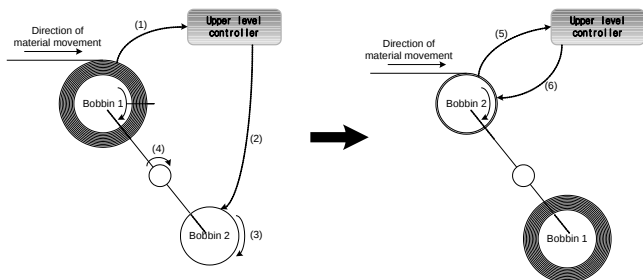

Fig. 1.7.2 Conceptual diagram of splicing
Fig. 1.7.2 illustrates the usual structure of winder splicing systems. The operation sequence of the structure shown in Fig. 1.7.2 is as follows.
When Bobbin 1 is almost completely full, it sends a signal to inform the upper level controller (Fig. 1.7.2 (1)).
The upper level controller then issues an ON signal to the inverter multi-function input specified in “57: Web Splice” that controls empty Bobbin 2 (Fig. 1.7.2 (2)).
The inverter interrupts the output of the Web PID controller. In this situation, the inverter uses a combination of the main speed command (%) and APP93 (Splice Level) as the command value, as shown in Eq. 1.7.6-Eq. 1.7.8, to activate empty Bobbin 2 (Fig. 1.7.2 (3)).
The axis between the bobbins rotates 180 degrees, so Bobbins 1 and 2 switch position (Fig. 1.7.2 (4)).
Bobbin 2 sends a signal to the upper level controller to confirm that the switch is complete (Fig. 1.7.2 (5)).
The upper level controller sends an OFF signal to the inverter's corresponding multi-function input specified in "57: Web Splice" to control Bobbin 2, which interrupts the splicing operation. Then, the Web PID controller resumes operation and diameter computation begins again, so the frequency of inverter is once again determined by Eq. 1.7.5 (Fig. 1.7.2 (6)).